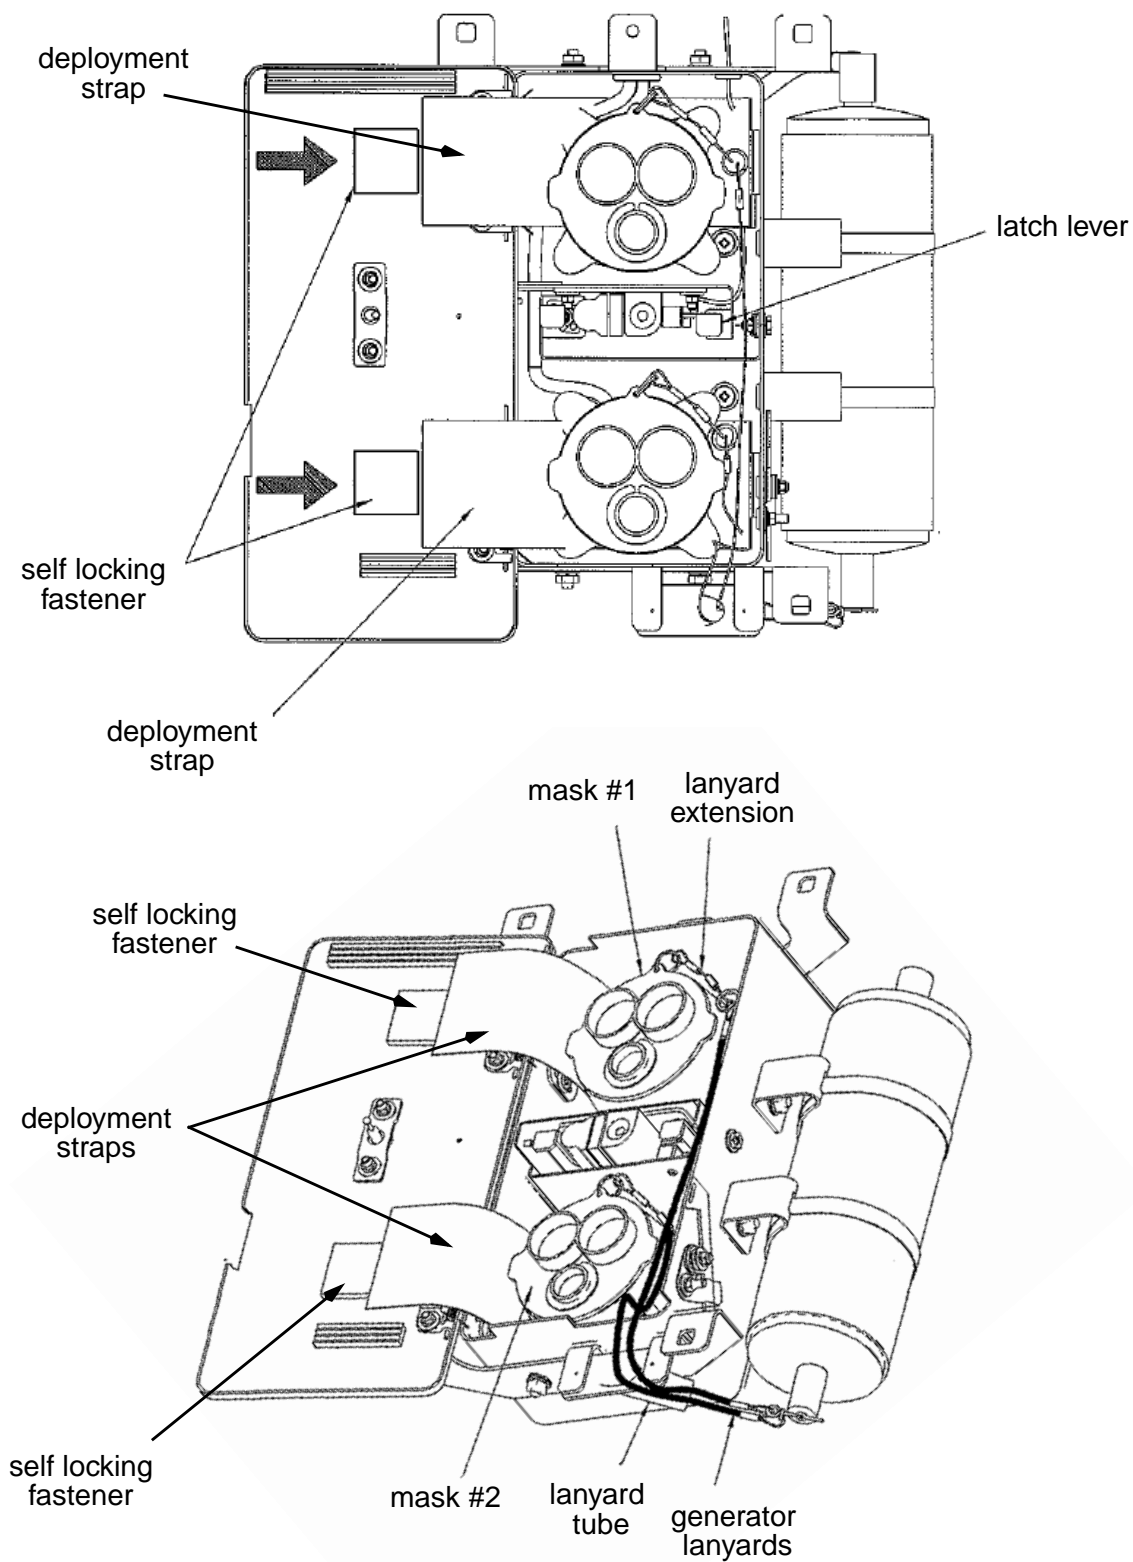

Figure 7 - Lavatory Mask Assembly
5.6 Re-Packing of Lavatory Mask Assemblies (see Figure 7)